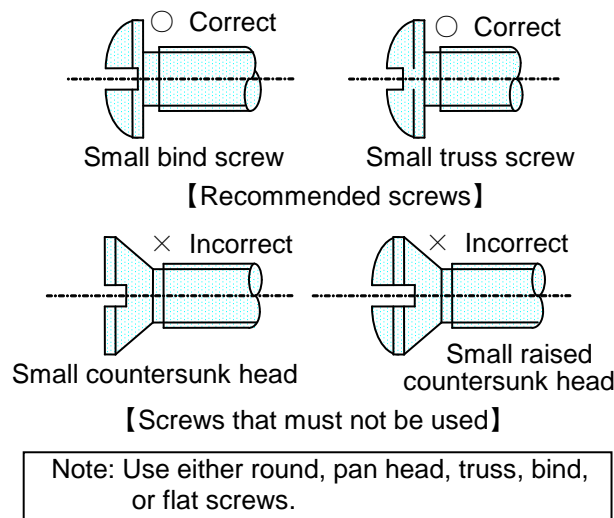

Fig. 11 Classification of recommended screws and those that must not be used
- Avoid using countersink screws, which add abnormal stress to devices (Fig. 11).